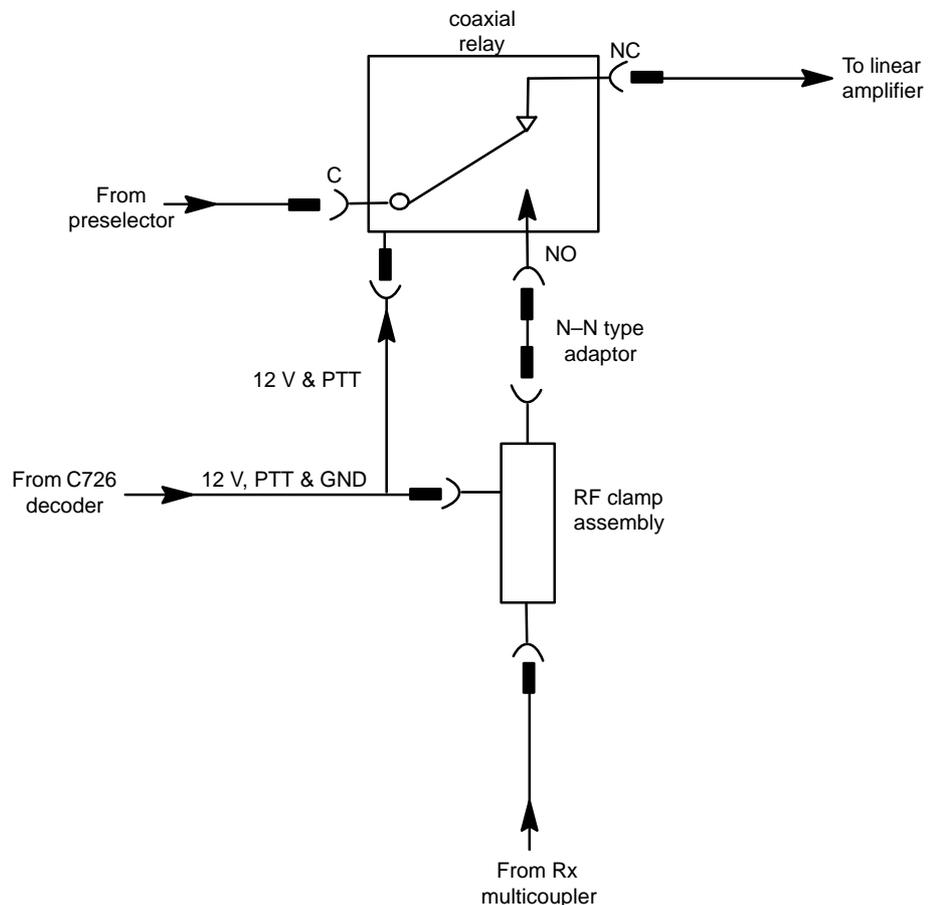

Figure 1: Positioning of the RF clamp assembly
- Insert an RF clamp assembly (part number 08–05656–001) in the coaxial line at the coaxial relay of each transceiver system (see Figure 1).